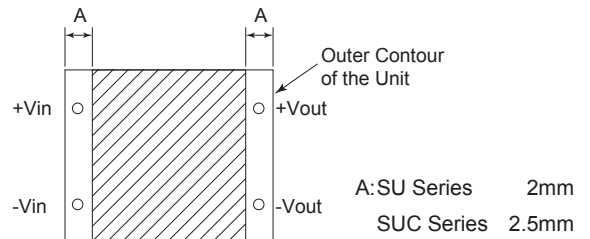

Fig.6.1 Area where Pattern Layout should not be Placed
■ Do not place a pattern layout in the hatched area shown in Fig. 6.1. Doing so may cause insulation failure on the PCB surface on which the power supply is mounted. If you need to place a pattern layout other than a land pattern in the hatched area, please contact us.